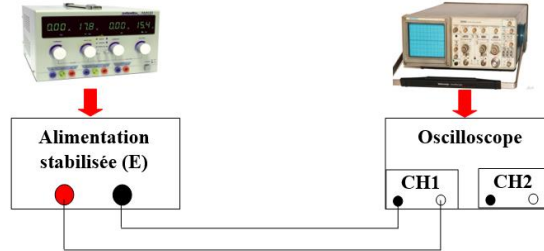

Figure 1. Assembly 01 in continuous mode.
- + Connect the oscilloscope to the generator according to the assembly shown in figure 1.